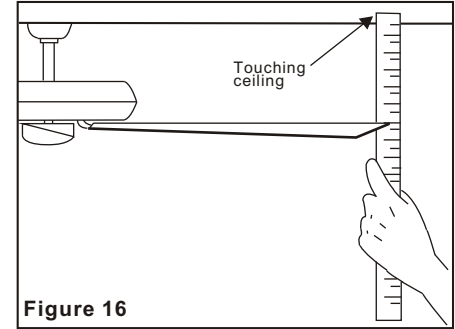

Figure 16
2. Most fan wobble problems are caused when blade levels are unequal. Check this level by selecting a point on the ceiling above the tip of one of the blades. Measure this distance as shown in Figure 16. Rotate the fan until the next blade is positioned for measurement. Repeat for each blade. The distance should be equal within 1/8".